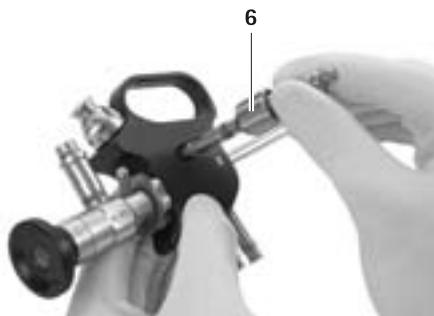

Fig. 5
- Insert adapter for holding arm 6 from either side (left/right) into the borehole until the flange engages in the appropriate groove, see Fig. 5.